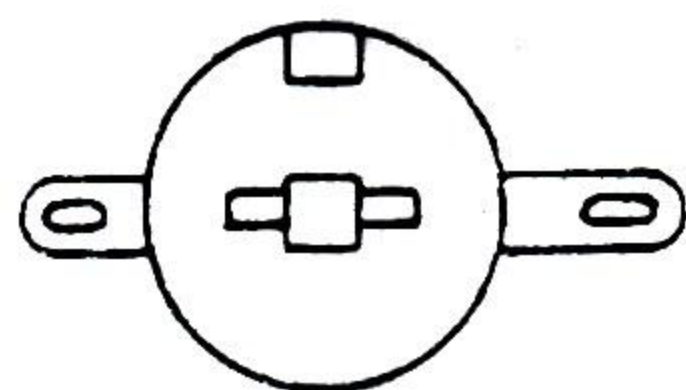

Figure 2
- ( ) Turn the trimmer capacitor (on the range switch) to the position shown in Figure 2. This compensates the input voltage divider approximately for frequencies throughout the range of the VTVM.